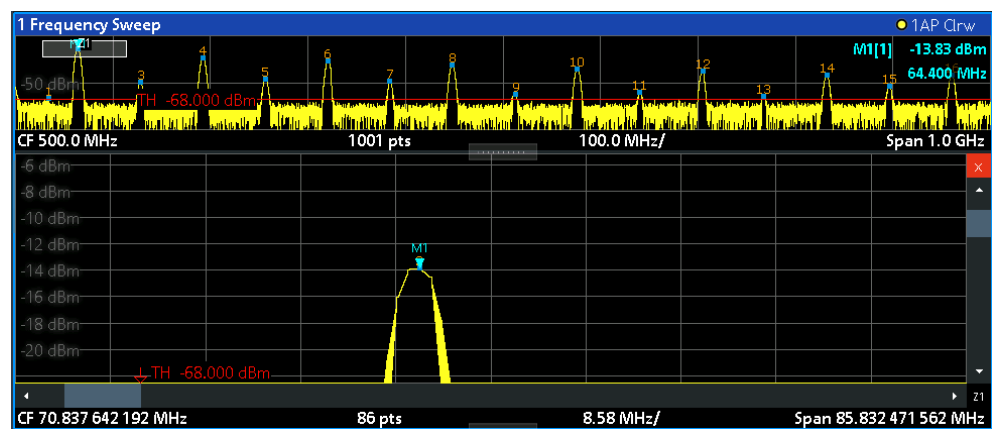

Figure 3-17: Zoomed display around a peak
3. In Figure 3-17, the enlarged peak is represented by a very thick trace. This is due to the insufficient number of sweep points. The missing sweep points for the zoomed display are interpolated, which provides poor results. To optimize the results, we will increase the number of sweep points from the default 1001 to 32001.